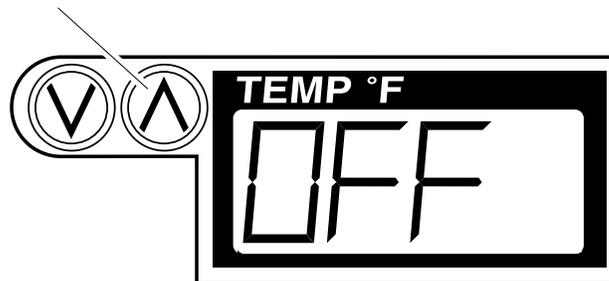

Figure 6 - ON/Reset Button Location
5. Plug extension cord into standard 120 volt/60 hertz, three-hole, grounded outlet. Heater will display ambient temperature and "OFF" (see Figure 6). If not, check status of display and refer to *Troubleshooting*, pages 11 and 12.
6. Press ⏏ (ON/Reset) Button (see Figure 6) until display flashes. Heater will start when button is released.
5. Plug extension cord into standard 120 volt/60 hertz, three-hole, grounded outlet. Heater will display ambient temperature and “OFF” (see Figure 6, page 7). If not, check status of display and refer to *Troubleshooting*, pages 11 and 12.